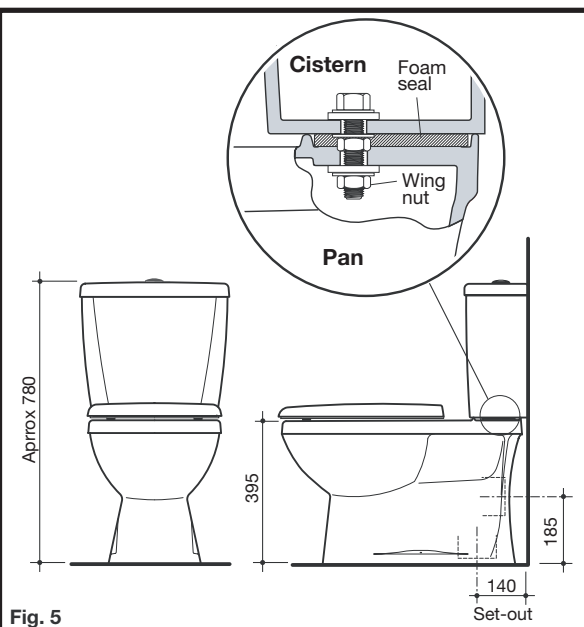

Fig. 5
- 1- Securely attach the self-adhesive foam seal around the outlet on the base of cistern, as detailed in **Fig. 5**.